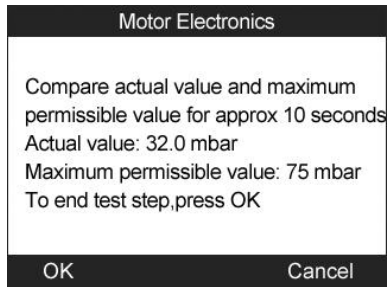

Figure 14.42
- d) Check the exhaust backpressure with engine running at 2000 rpm. The tool will read off the actual backpressure value and compare with the upper limit. (Figure 14.42). Select **OK** to continue the test or **Cancel** to return to previous menu.